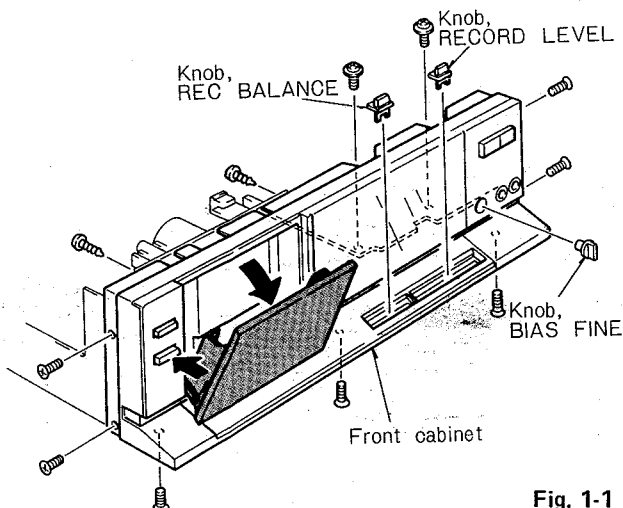

Fig. 1-1
- 2) Remove the 11 screws. (See Figure 1-1)